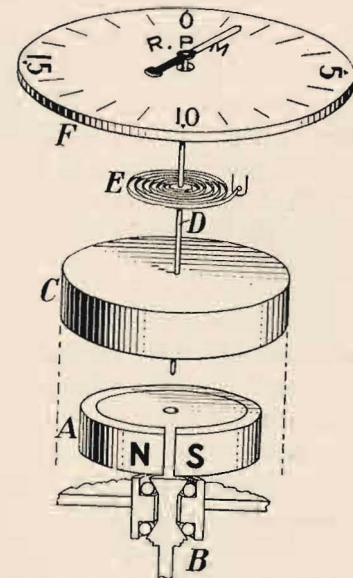

Fig. 16.—The working parts of an r.p.m. indicator.
**28. R.P.M. indicator.** The revolution per minute indicator measures the speed of rotation of the crankshaft and may be of the centrifugal or magnetic type. One form of a magnetic indicator is shown in Fig. 16. The shaft B which is driven by the crankshaft carries a circular magnet A with poles at N and S. Over this fits closely a light aluminium cup C supported on a pivot so that it can rotate independently of the magnet. This cup has been raised in the diagram to show the magnet. Fastened to the spindle D above the